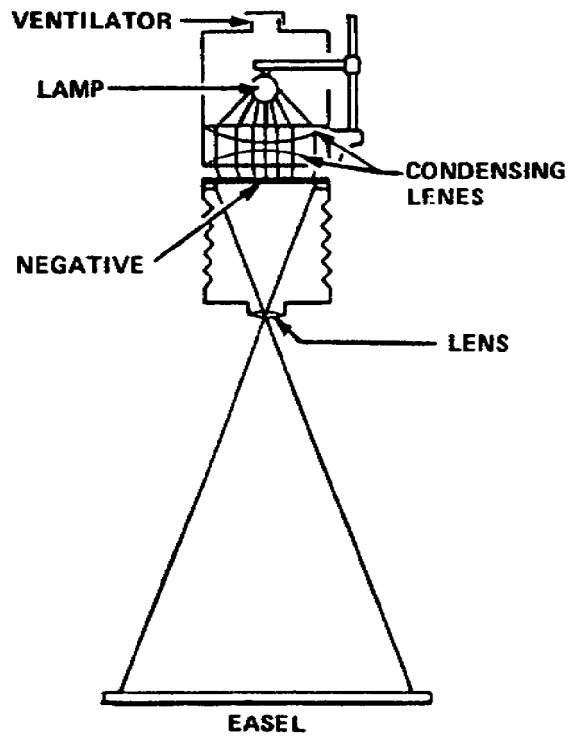

Figure 2-5. Condenser type projection printer
(5) An easel. There are many types of easels in use, each serving the same basic purpose; to hold the printing paper in a flat plane.
c. There are, basically, two types of projection printers, the condenser type and the diffusion type, as shown in Figures 2-5 and 2-6.
(1) The condenser type projection printer (fig 2-5) has a set of condensing lenses between the printing light and the negative. These condensing lenses align and project the light rays evenly through the negative. The condenser type printer produces more contrast and a sharper image from a negative, than the diffusion type printer. As a result, any defect in the negative (dust, lint, scratches, etc.) are faithfully reproduced. In addition, scars, acne, wrinkles, etc. will be very sharp and readily noticeable in the print.